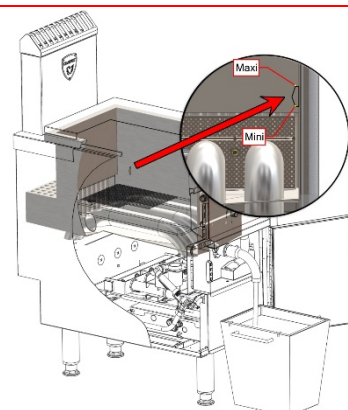

Fig. 15.
- Fill the tank with the cooking oil. (Oil level shall be between the mini and maxi marks (see Fig.15).